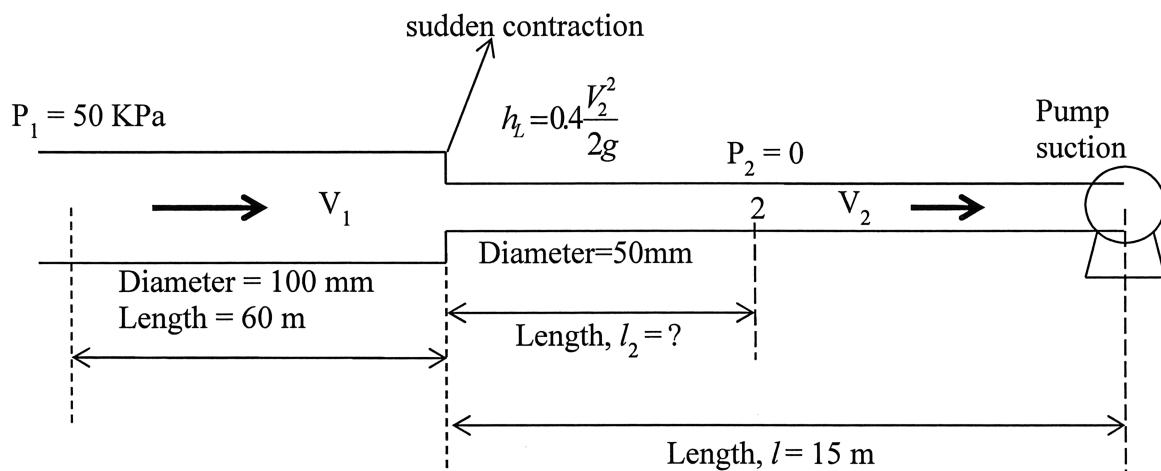

Figure 3
- (b) Figure 3 shows pressurized water flows through a horizontal piping system, comprising of a 100 mm diameter pipe, followed by a 50 mm diameter pipe connected by a reducer in series to feed a pump 15 m downstream. The velocity in the 50 mm diameter pipe is 3.5 m/s. Upstream pressure at point 1 is 50 kPa. Assuming that flow is wholly turbulent in both pipes, determine
Note: Figure 3 appears on page 4.